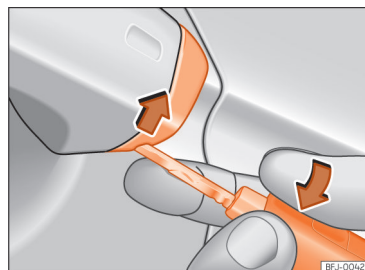

Fig. 55 Driver's door handle: pry the cover open.
- Insert the key shaft into the lower opening in the cover on the driver door handle then remove the cover upwards »» Fig. 55.